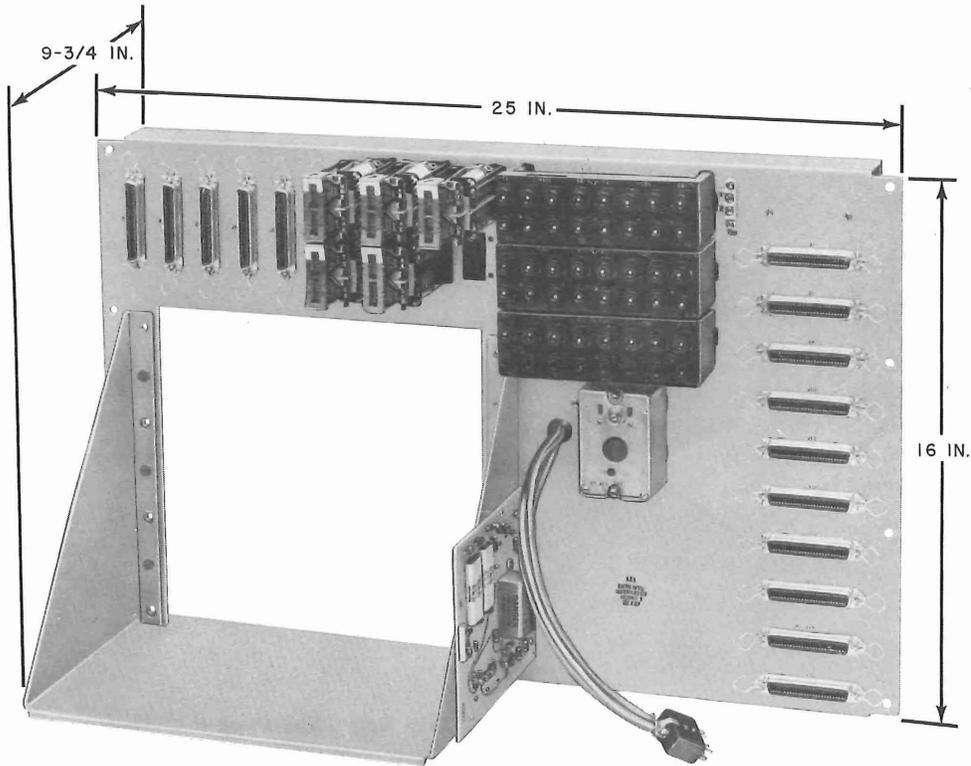

Fig. 8—1A1 Data Mounting
2.17 The 1A1 Data Mounting (Fig. 8) contains the common control logic circuits that are used to control the status of the data sets. A common power unit (31A) provides +18 Vdc 5 amps, -18 Vdc 5 amps, -24 Vdc 0.5 amps, and 10 Vdc 1.5 amps to drive the logic circuits in the 1A1 Data Mounting, the lamps and buzzer on DAS 804J-type, and up to 20 data sets with their associated 2A1 Data Mounting circuitry. Sixteen 50-pin connectors are provided to interconnect the 1A1, 2A1, 1A2 Data Mountings, DAS 804J-type, the telephone lines, and key telephone equipment (if provided). An interrupter (KS-19175-L1) is also provided to generate various lamp indications.